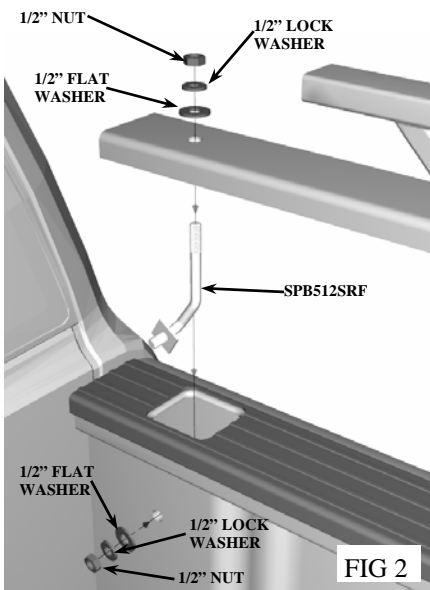

FIG 2
- Insert SPB512SRF (picture on reverse, supplied with the SIDERAIL) into the two front stake pockets as outlined in Figure 2. Tighten all stake pocket bolts facing truck bed.